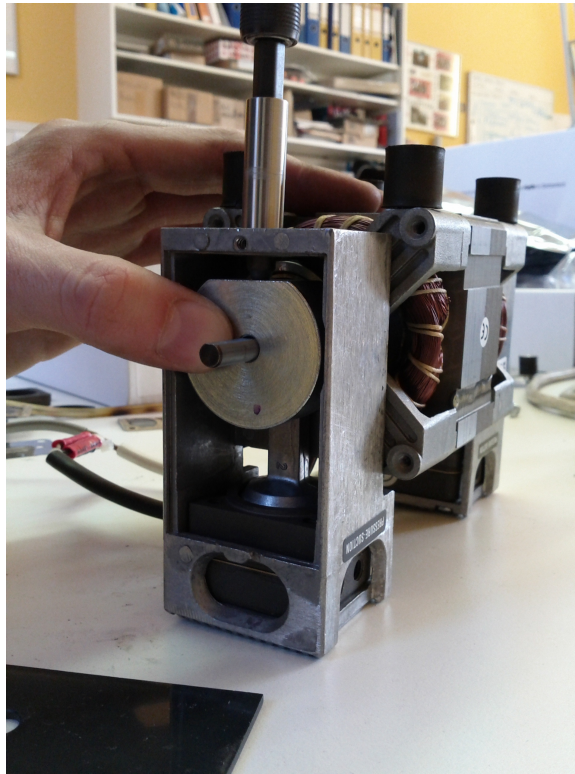

Figure 3.19: Fasten the weight
8. Put the weight back into its place. Similar to the shaft, the weight's flattening needs to be pointing up, as you can see in figure 3.19.